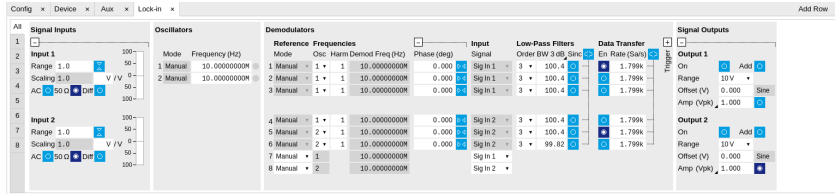

Figure 5.10: LabOne User Interface Lock-in tab - Parameter table (All)
The parameter table (see Figure 5.10) consists of 4 vertical sections: Signal Inputs, Oscillators, Demodulators and Signal Outputs. The Demodulators section gives access to all the settings of demodulators 1 to 6 that can be used for measurement, and of demodulators 7 and 8 that can be used for external referencing. Demodulators 1 to 3 (4 to 6) are connected to Signal Input 1 (2).